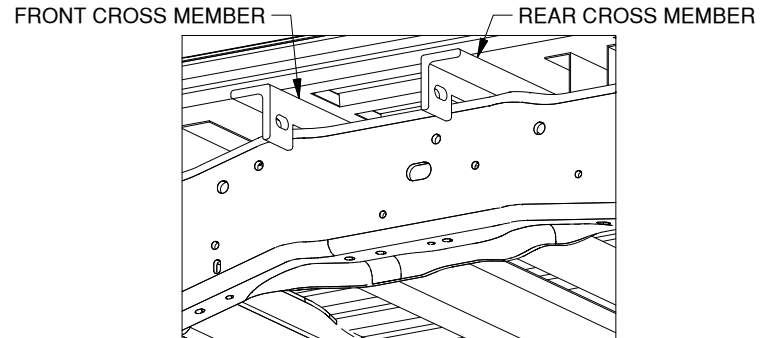

Figure B1: View outside of driver side frame.
- 2. Place front cross member.** Using the methods in step 1 as a guide Install the front cross member. When placing the front cross member over the frame, the leg of the angle with the oval holes should face towards the rear of the truck. Slide the cross member rearward just behind the shock bracket and leave until needed for installation. When installed correctly the two angle legs with the holes should be facing each other, see Figure B1.